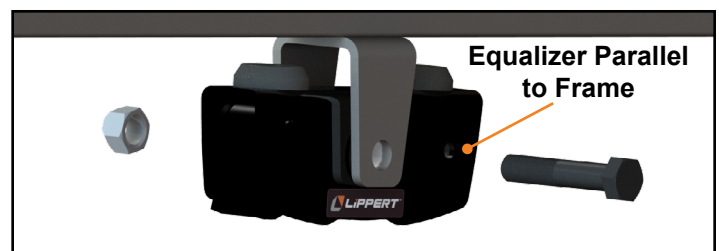

Fig.12
12. Using the 1" bolts and nuts, attach the equalizers to the hangers (Fig. 12).